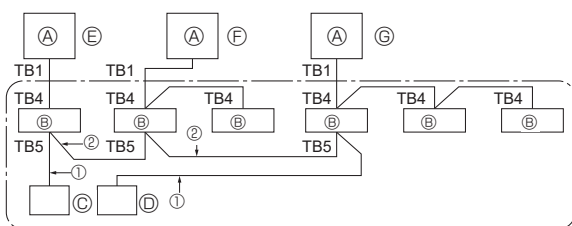

Fig. 9-1
9. Sistema de control (Fig. 9-1)
- (A) SW 1 - 3 ~ 6